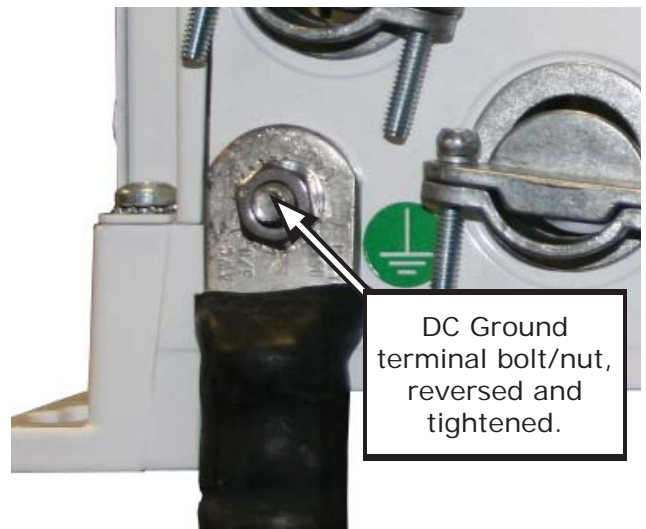

**Figure 2-22, Disconnecting the Neutral-to-Ground Connection**
2. Inside the AC wiring compartment, locate the green wire with the insulated connector; see Figure 2-22. This insulated connector connects the neutral and ground inside the inverter while inverting.